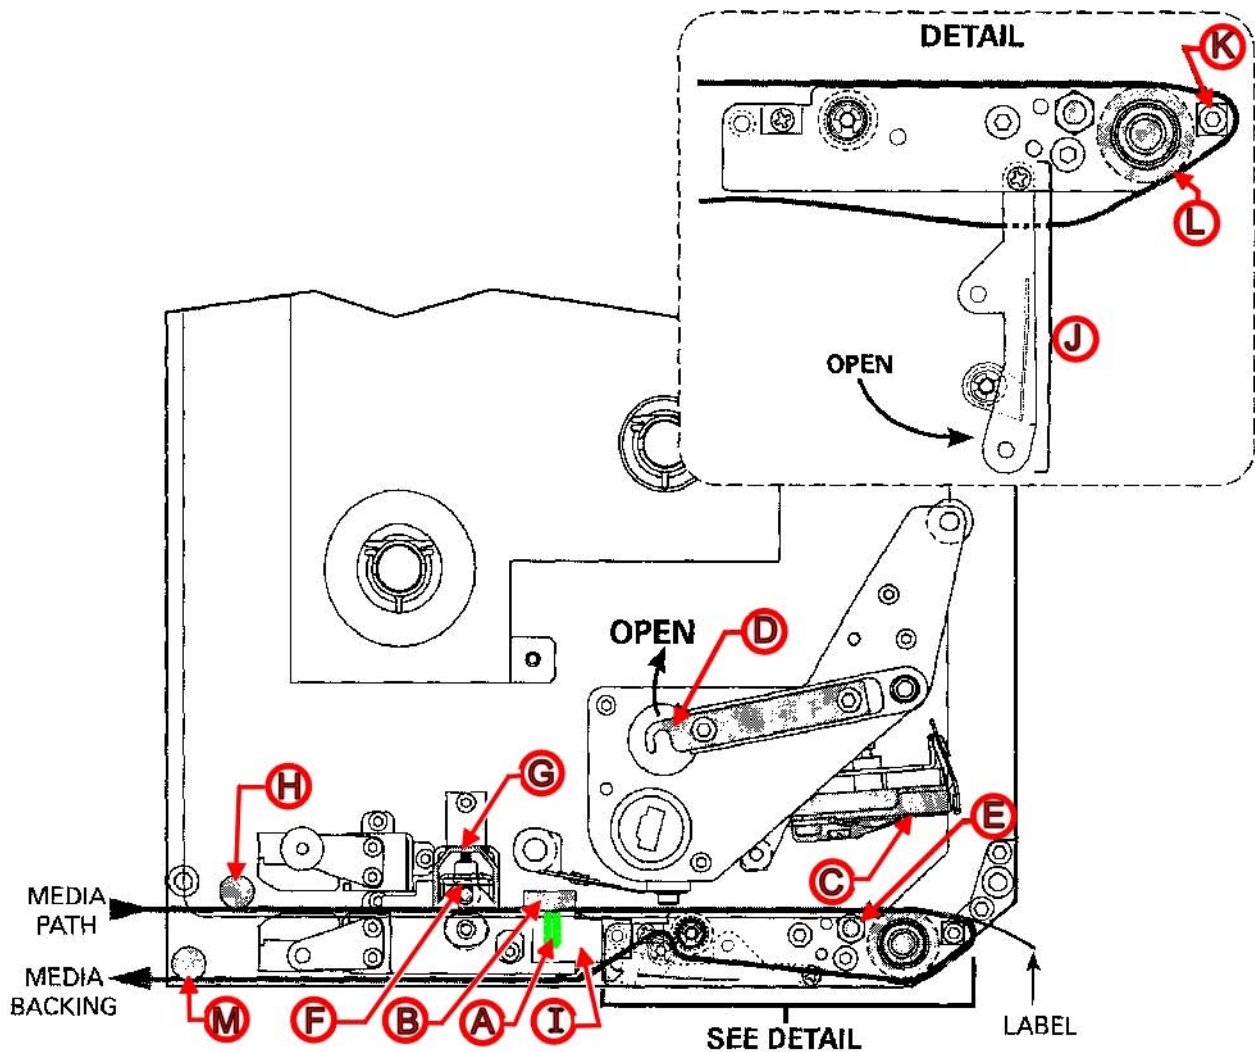

Figure 3-17 Annotated parts of the Zebra Print Engine. Front view
1. Grasp the thumbnut (A) and slide the outer media edge guide (B) as far out from the printer frame as possible. (The thumbnut does not have to be loosened.)
2. Open the printhead assembly (C) by unlatching the printhead lock lever (D) from the locking pin (E).
3. Raise the pinch roller (F) by pressing down on the pinch roller assembly latch (G). Thread the media under the upper guide post (H), between the pinch roller and the associated rubber pinch roller, and under the printhead assembly (C) until approximately 30" (75cm) of media extends out of the print engine.
4. Ensure the media is aligned within the print path then close the printhead assembly (C) by rotating the printhead lock lever (D) until it latches onto the locking pin (E).
5. Secure the pinch roller (F) in position by pressing down on the top of the pinch roller latch (G) until the assembly snaps closed.
6. Position the outer media edge guide (B) so it just touches the outer edge of the media.
7. Raise the peel roller latch (I) and the peel roller assembly (J) will pivot down to a vertical position.
8. Thread the backing material around the peel bar (K), under the platen roller (L), and through the peel roller assembly (J). (see Detail in figure 3-17.)
10. Rotate the peel roller assembly (J) up until it latches closed.
11. Thread the backing material under the lower guidepost (M) and around the take-up spindle of the applicator.